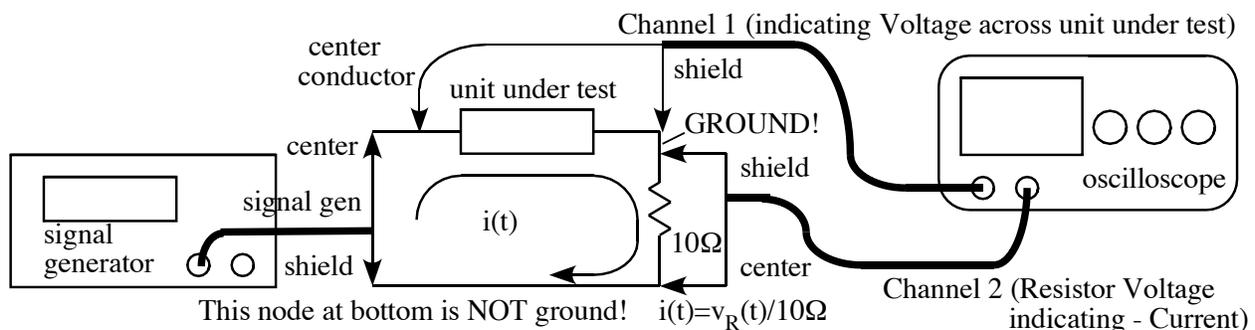

Figure 4.5 Test Circuit for Voltage and Current measurement
What we will actually measure will be the Voltage of the unit under test, $v_1(t) = v_{\text{component}}(t)$, and MINUS the resistor Voltage $v_2(t) = v_{R(t)} = -i_{\text{component}}(t)$. See Figure 4.5 below. We can do this because the outer conductor of the signal generator is NOT actually grounded through the instrument as earth ground, as are the outer conductors of the oscilloscope. So, we can construct a circuit in which neither signal generator lead is grounded. Instead, we put ground (the shielded lead of each oscilloscope channel) at the node in between the unit under test and the resistor. The only disadvantage is that in the circuit current $i(t)$, when positive (in the direction of the arrow), will cause a negative Voltage to be indicated on Channel 2 of the oscilloscope. On the Channel menu, an option to “invert” the channel fixes that. Note: Do NOT use the T connector and BNC-BNC cable from the signal generator to Channel 1!
2. Connect the circuit shown in Figure 4.5. Choose a resistor R, about 470 Ω (as directed), to be the “unit under test.” Let channel 1 of the oscilloscope be the resistor under test Voltage. That is done with a BNC cable from Oscilloscope Channel 1 directly (NOT connected to the